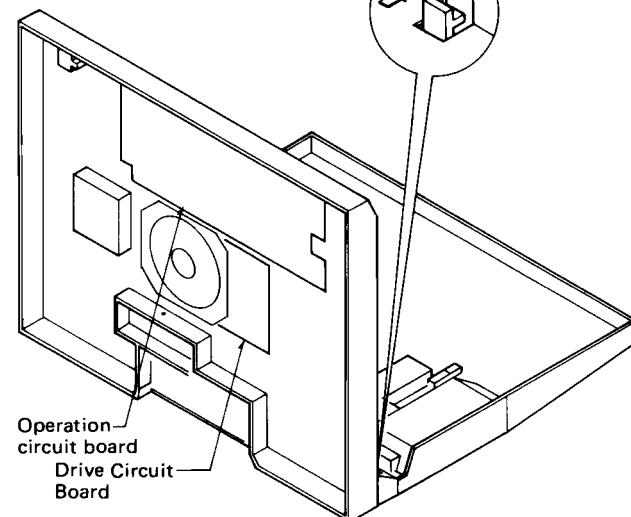

Fig. 35
2. How to raise the set (Fig. 35)